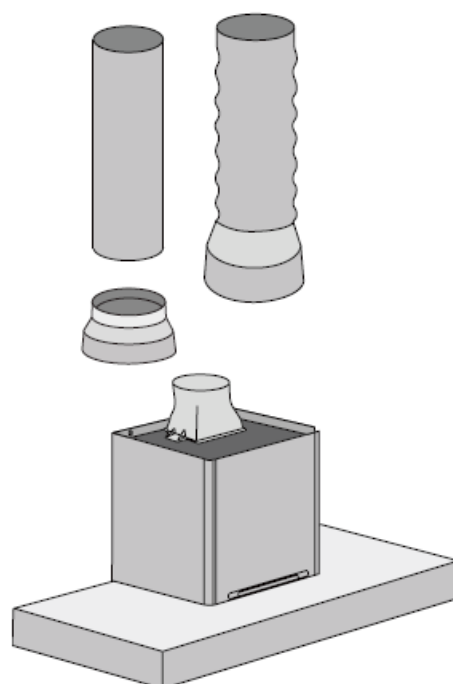

Fig. 10
- **6b. Ducted mode (Fig 10.)** The rangehood can be connected with a 150mm diameter non-combustible flue pipe (rigid or flexible – not included) and fan transition duct. Continue the centre line to the ceiling. Fit preferred flue pipe to the fan transition duct. Use cable ties or suitable duct tape to secure flexible pipe to the transition duct.